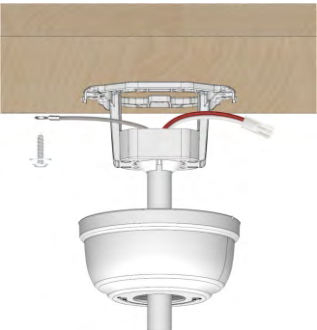

Fig. 7.2
7.2 Attach the other end of the safety cable to a secure location. Fasten the safety cable to the ceiling using a screw and washer (not included), as depicted in Fig. 7.2.